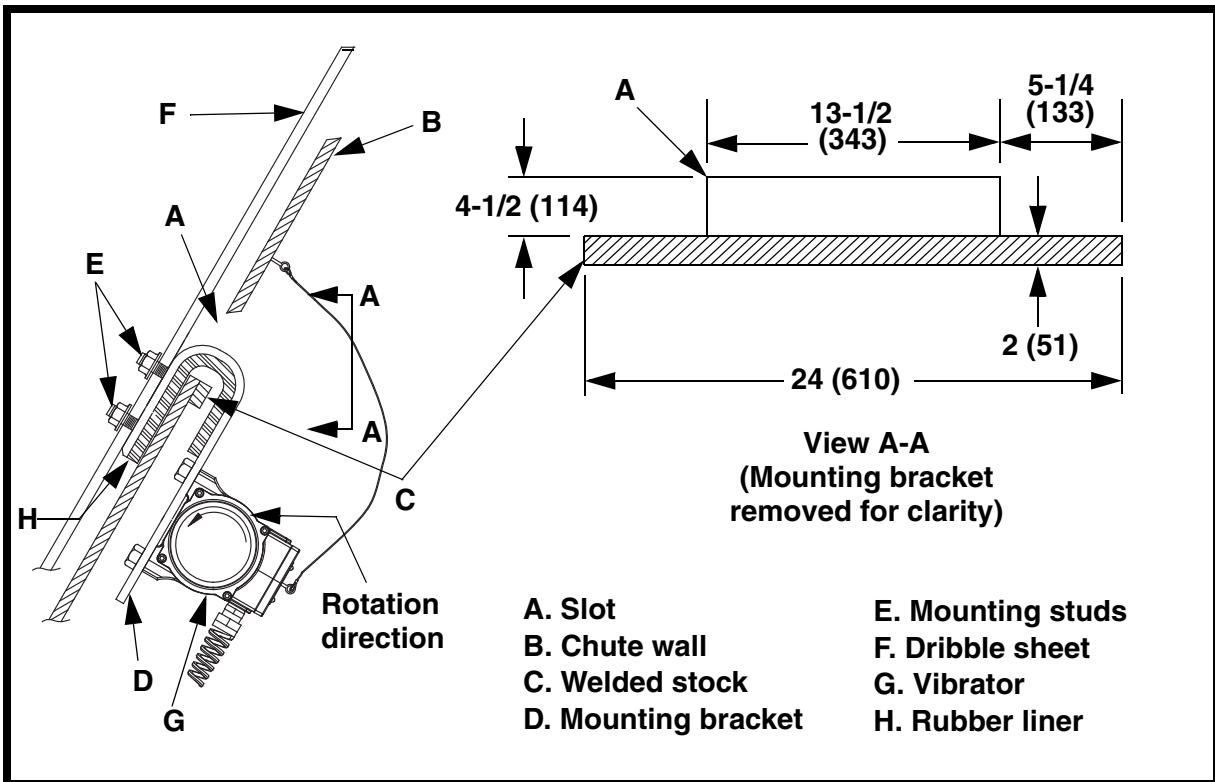

Figure 2. Dimensions for Slot and Welded Stock
1. See Figure 2. Determine where to cut mounting slot (A) in chute wall (B). Center slot under belt parallel to belt width.
3. If chute wall is less than 1/4 in. (6 mm) thick, weld a piece of flat stock (C) 3/8 x 2 x 24 in. (9 x 51 x 610 mm) to the chute wall as shown in Figure 2.
4. Insert mounting bracket (D) through slot and hang on chute wall so mounting studs (E) are inside the chute.
1. Install dribble sheet (F, Figure 2) onto mounting studs and secure with hex nuts and washers. Hand-tighten hex nuts to snug so dribble sheet does not crack from over-tightening.
2. Install vibrator (G) to mounting bracket according to *Martin*[®] *Zero-Frame Electric Vibrators Operator's Manual*, P/N M3892.
2. Ensure eccentric weights on vibrator rotate in direction shown in Figure 2.
3. Check dribble sheet (F, Figure 2) to ensure minimum clearance is maintained. If belt has sagged, adjust vibrating dribble chute to prevent damage.
4. Make sure rubber liner (H) on mounting bracket (D) is not worn. If it is, replace as follows:
- a. Remove vibrator (G, Figure 2) and dribble sheet from mounting bracket.
- b. Remove mounting bracket from slot (A) in chute wall (B).
Chute wall beginning to tear.	Chute wall too thin. Weld a piece of flat stock to chute wall (see Figure 2).